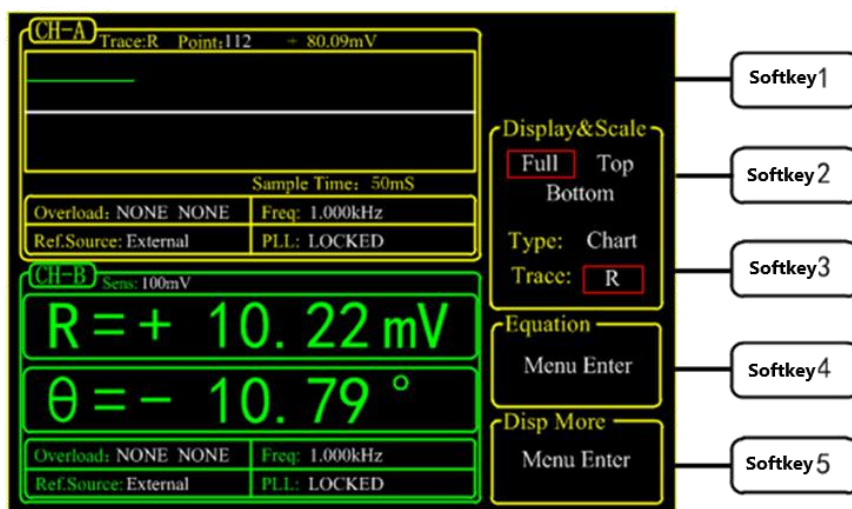

Fig.89 Display θ in XY Chart
Third, press [soft key 3] to highlight \langle Trace \rangle and then choose $\langle\theta\rangle$. After these settings, the result is shown in Fig.89.